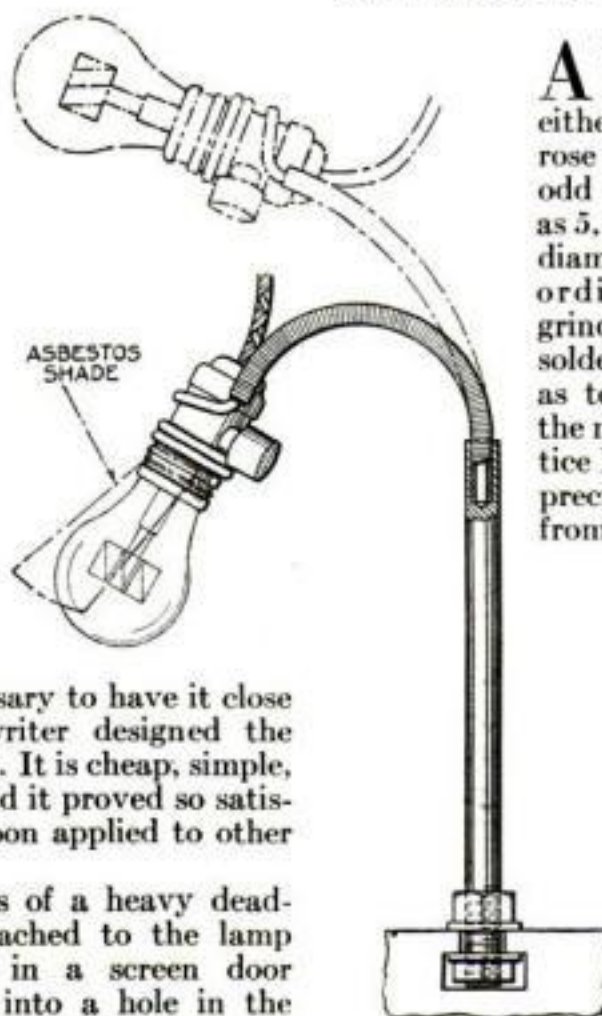

Fig. 2. Flexible lamp holder for machines which is easily made.
**B**ECOMING tired of the makeshifts ordinarily used to hold a lamp on a lathe when it is necessary to have it close to the work, the writer designed the holder shown in Fig. 2. It is cheap, simple, and quickly made; and it proved so satisfactory that it was soon applied to other machine tools.